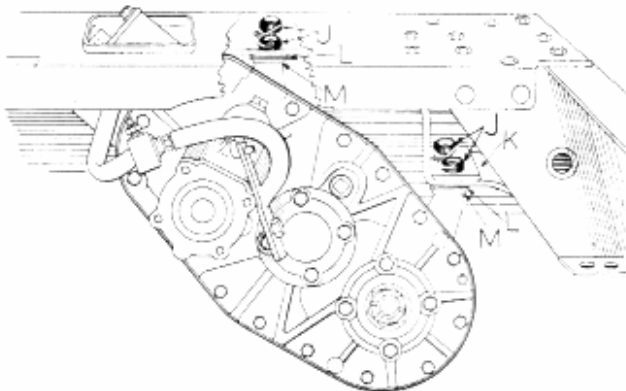

Fig. 10—Transfer Case Mounting
2. Install the four mounting cap screws "J" fastening the assembly to the frame cross member and to the support bracket "K" Fig. 10. One composition shim (rubber and fabric) "L" and one steel shim "M", are normally used at each cap screw. These shims are located between the transfer case mounting boss and the cross member at the top and between the mounting boss and the support bracket at the bottom.